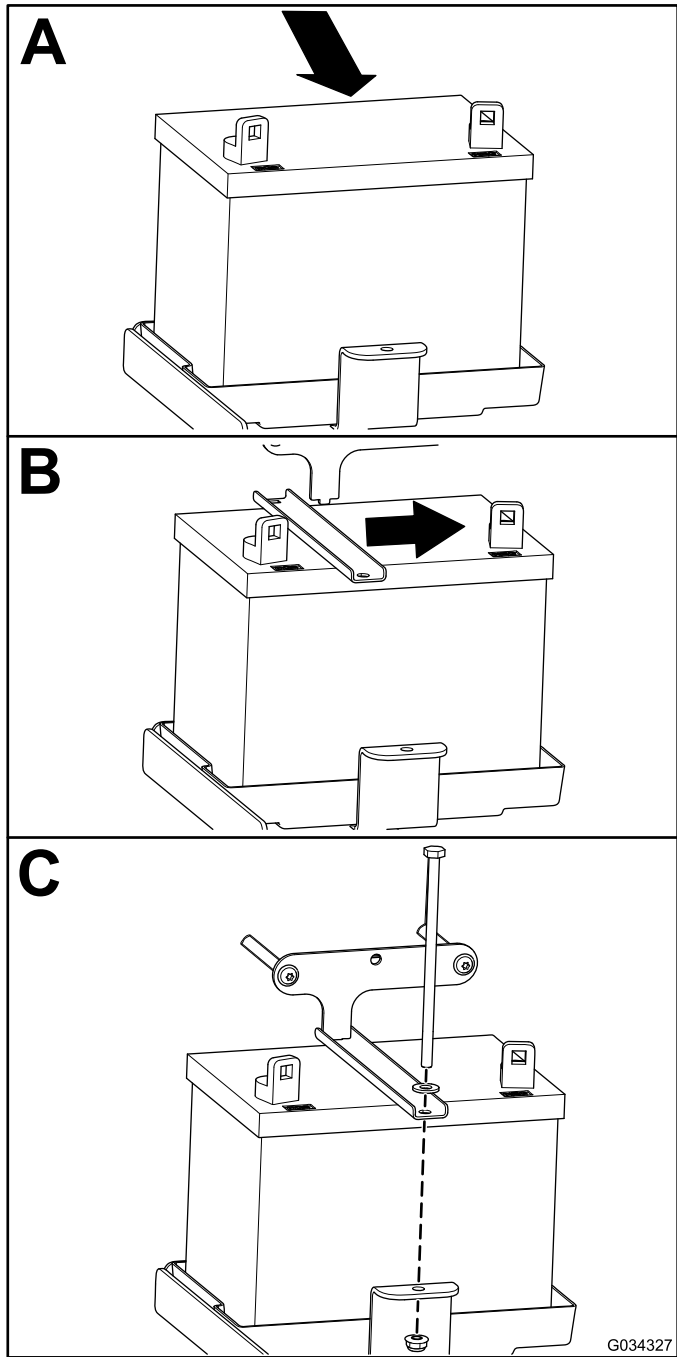

Figure 46
1. Install the battery as shown in Figure 46.